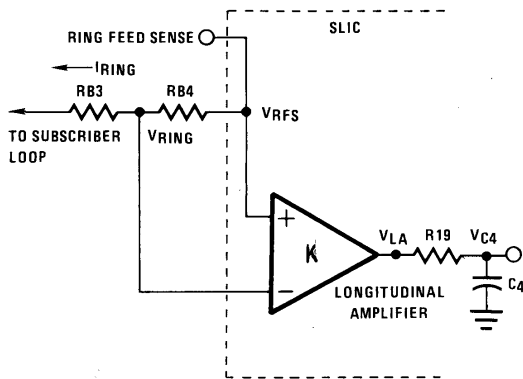
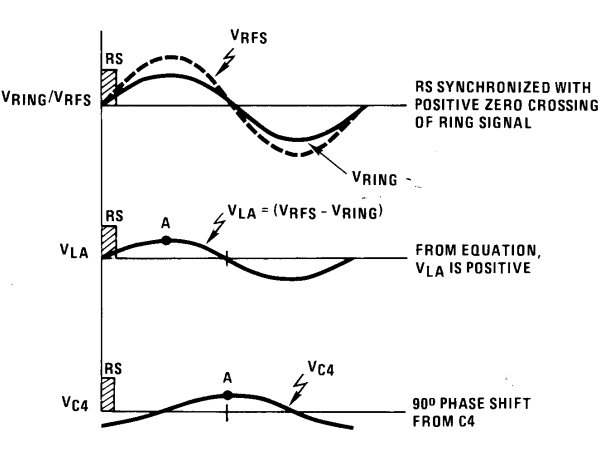

FIGURE 4.
FIGURE 5.
For Case 2 refer to Figures 4 and 5. Here ring sync must be synchronized with the positive zero crossing of  $V_{RING}$  (AC) as it appears on the line so as to coincide with the negative peak of  $V_{C4}$  (AC), as in the previous case. One can see from Figure 5 that ring sync on the negative zero crossing would coincide with the positive peak of  $V_{C4}$ , inhibiting ring trip for loops greater than approximately 800Ω.